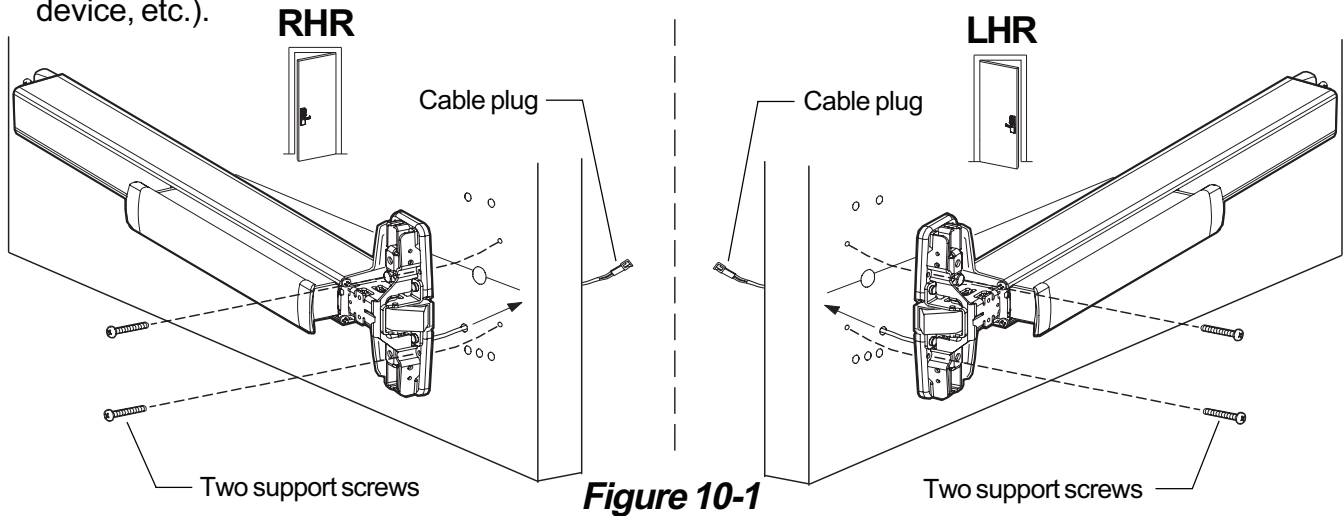

Figure 10-1
10.3. Pull center case away from door and route E996 cable plug through wire access hole in door (Figure 10-1).
10.4. For 98/99 Rim, 98/9927, and 98/9975 secure center case to door using two support screws (Figure 10-1) or by some other temporary means (use clamps, have a helper hold the device, etc.).